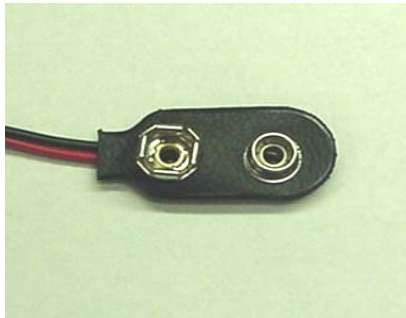
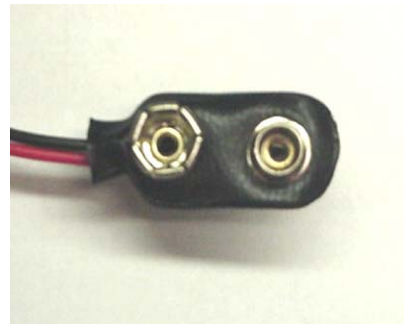

Figure 2
Figure 3
In its manufacturing process of the COMPASS, Sperian Respiratory Protection has also used a black four-point battery terminal connection (see Figure 2) and a white six-point battery terminal connection (see Figure 3). Sperian Respiratory Protection is **NOT** aware of similar problems with either the black four-point battery terminal connection or the white six-point battery terminal connection. It is important to make sure that you replace the black six- (6) point battery terminal connection and not the black four- (4) point battery terminal connection. There has been some confusion about determining which is which. The black four- (4) point battery terminal connection has eight (8) faceted metal sides (see Figure 2). The black six- (6) point battery terminal connection has six (6) faceted metal sides (see Figure 3).